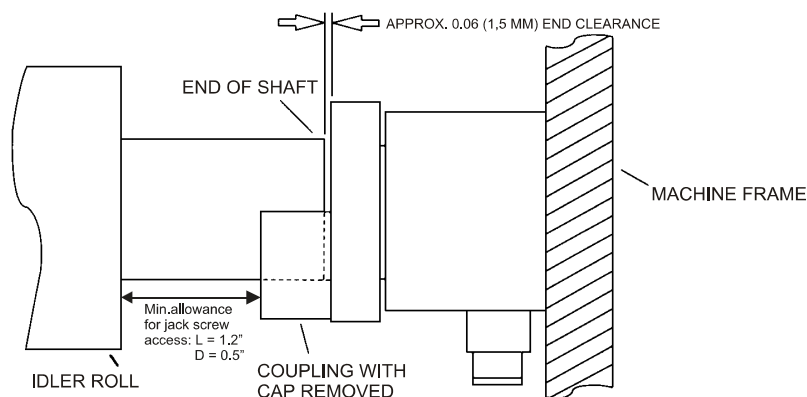

Figure 7 - SHAFT END CLEARANCE
Measure the distance between the machine frames (D)* where the transducers will be mounted. Use the appropriate formula below to determine the correct shaft length. The formulas allow approximately 1/16 inch (1.5mm) clearance at both shaft ends. This clearance is necessary for proper operation and for ease of installation and removal. **DO NOT ALLOW THE SHAFT TO CONTACT THE BOTTOM OF THE BORE.** (see Figure 7). *for PB style, D is distance between PB bracket mounting hole centers
This part of the installation is different for the (D) and (L) versions. Use the procedure under letter A for the (D) version. Use the procedure under letter B for the (L) version. However, refer to Figure 7 for both versions for illustration of the shaft end clearance.
4. Adjust the shaft depth to allow approximately 1/16 inch (1.5mm) end clearance in ONE transducer ONLY (see figure 7). Tighten the cap screws to clamp the shaft into the transducer coupling.
3. Position the idler shaft in the transducers to allow approximately 1/16 inch (1.5mm) end clearance in ONE transducer ONLY. (See Figure 7).